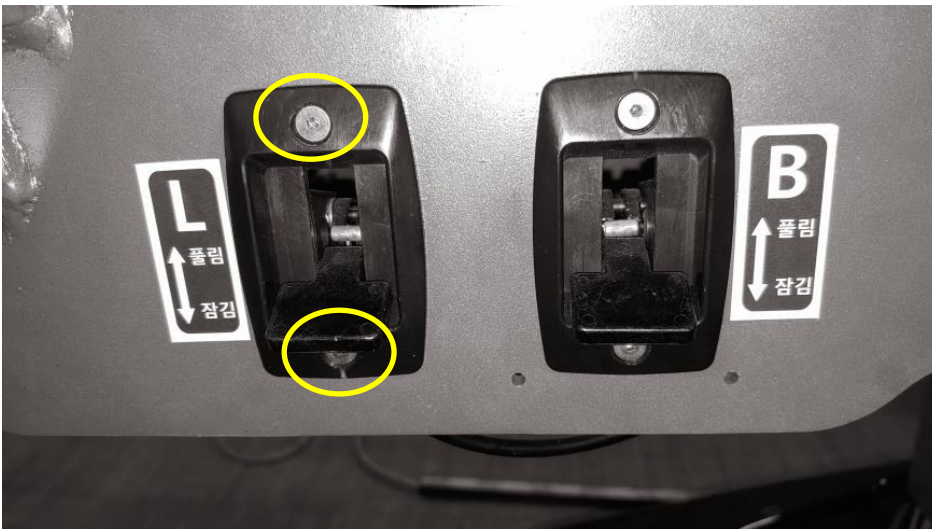

Figure 2.7
2. Remove the 2.5 mm bolts and remove the broken wire (see Figure 2.7).